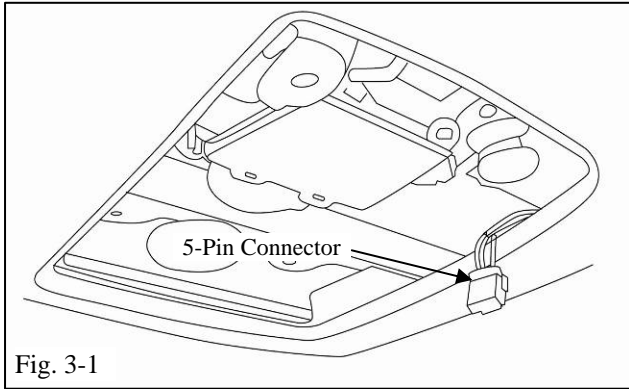

Fig. 3-1
- (a) Locate the disconnected 5 pin dome light connector. (Fig. 3-1)